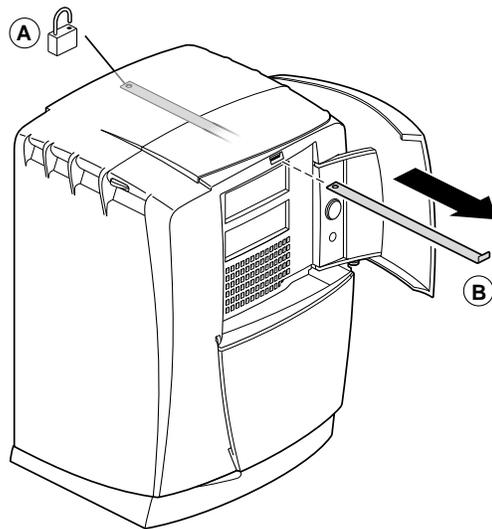

Figure 2-2 Removing the Lockbar
- Unlock the lock (see A in Figure 2-2) at the back of your workstation.
- Pull the lockbar (B) out of your workstation.